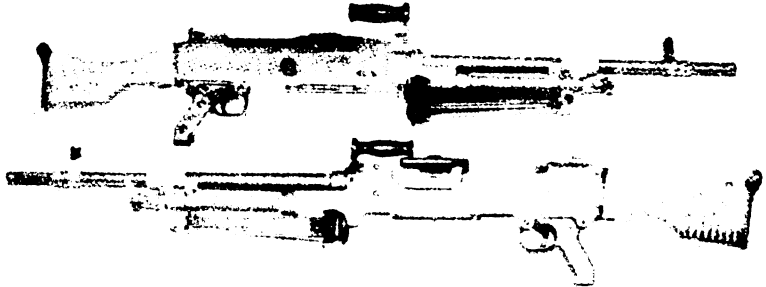

Figure 2
2. Identify The M.A.G. 58. (See fig. 2.)